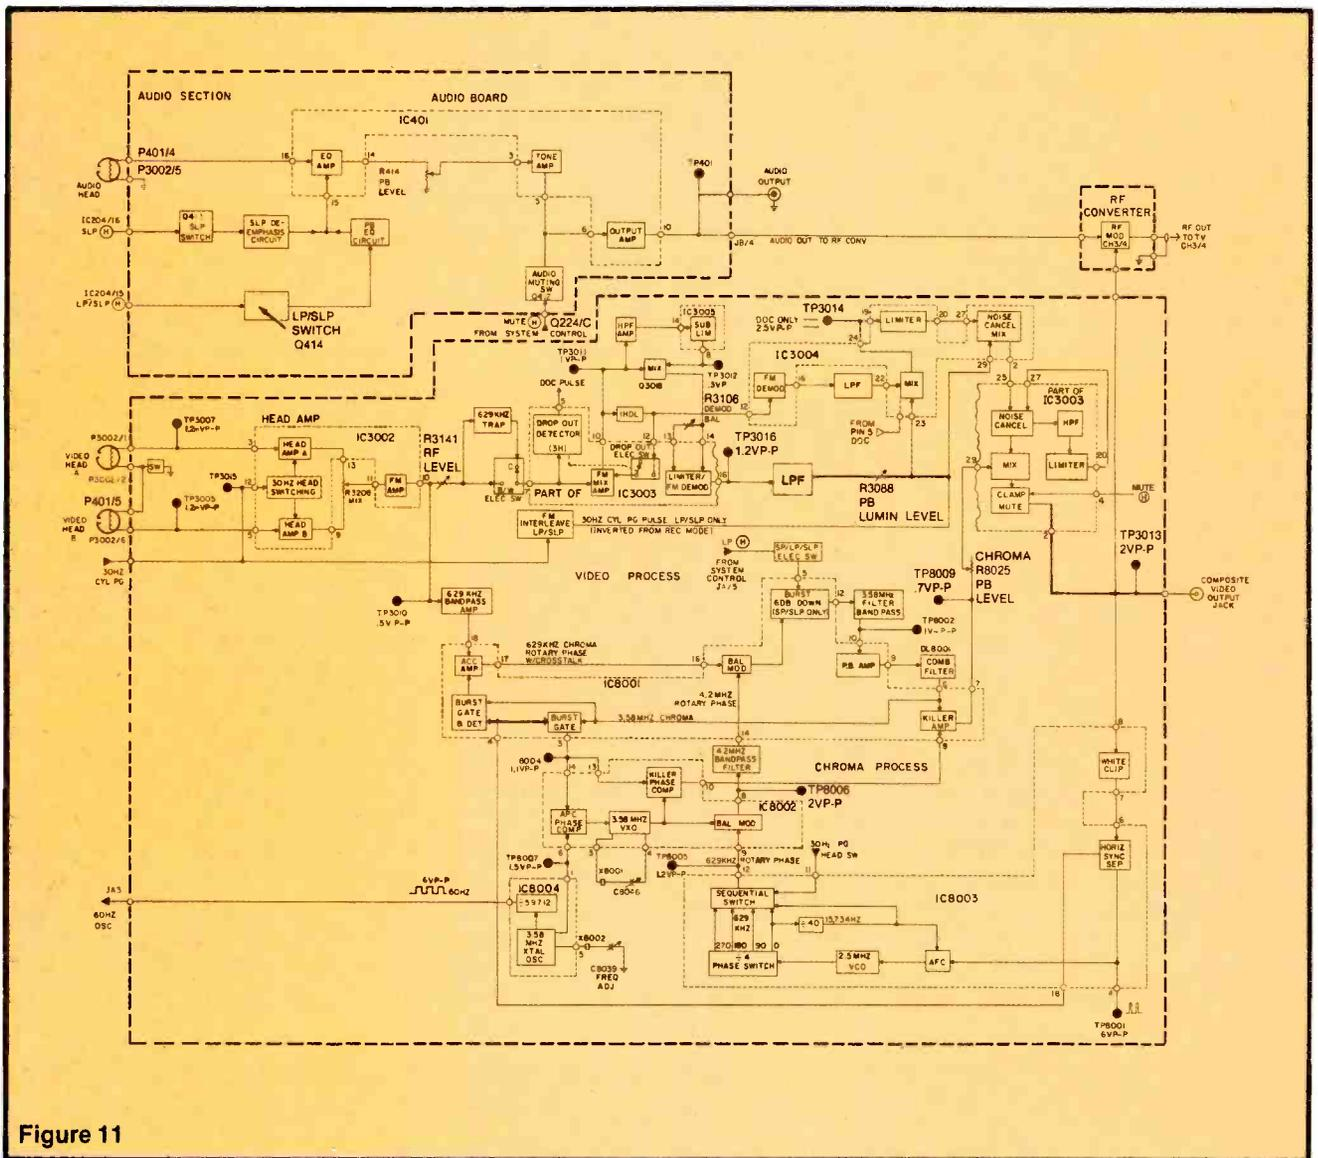

Figure 11
- The 3.58MHz crystal oscillator (shown at the bottom of Figure 11) provides the reference signal for the APC phase-compensator circuit.
Figure 11 shows the entire block diagram of the playback system. This should make clear the interconnection of all separate circuits.
Figure 11 shows several waveforms taken from a typical stereo-radio receiver. Identifications and most information are included with the waveforms.